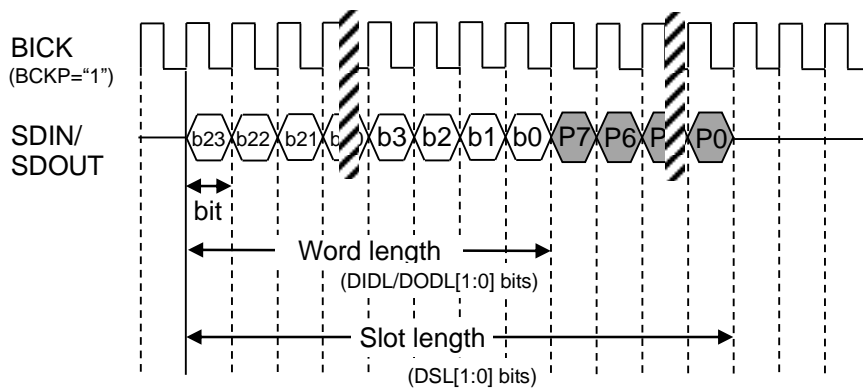

Figure 12.The definition of Bit, Word and Slot
The output word length is set by DODL [1: 0] bits (Table 7). The relationship between slot length and word length is shown on Figure 12. BCKP bit controls the edge relationship of BICK and LRCK ( Table 5).
**Word** : It is a group of multiple bits that composes sampled data. Figure 12 shows an example of a word consists of 24 bits length.
In Figure 12, the audio word is 24-bit valid data. In order to make 32-bit slot length, additional eight "P" adds to satisfy an interface protocol of the external device. Zeros are inserted into "P" when sending SDOUT serial data, and "P" data is ignored when receiving SDIN serial data.
Figure 12 is an example of the sample word aligned to the beginning of the slot(MSB justified).